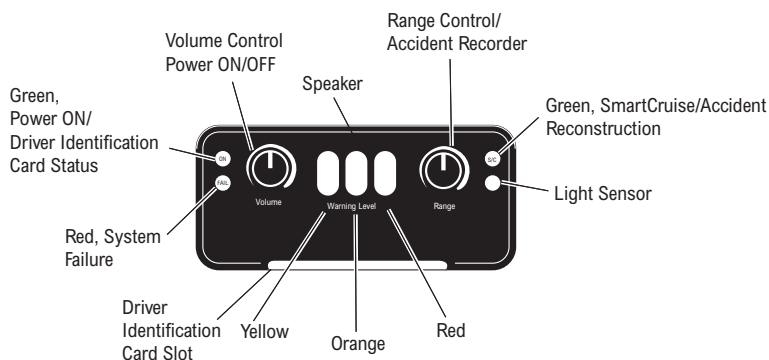

Figure 8
If the system configuration requires a Driver Identification Card, (see Figure 10), it must be inserted into the slot provided on the front of the Driver Display Unit (see Figure 8, page 13). After the system is powered on, insert the Card into the slot with a smooth, steady, continuous motion. Allow approximately one (1) second to ensure the bar code is read. A high-pitched confirmation tone will sound when the card is correctly scanned. *The card should be removed and stored in a safe place until required again.* If the bar code is not scanned correctly, the system will sound one low-pitched tone.
The "RANGE" control knob (see Figure 8, page 13) adjusts the Bendix SmartCruise system's "following intervals". The SmartCruise system will either maintain the selected following interval between the host vehicle and a vehicle ahead or, in the case of no target vehicle, the set cruise control speed. The following interval takes precedence over the set cruise control speed.